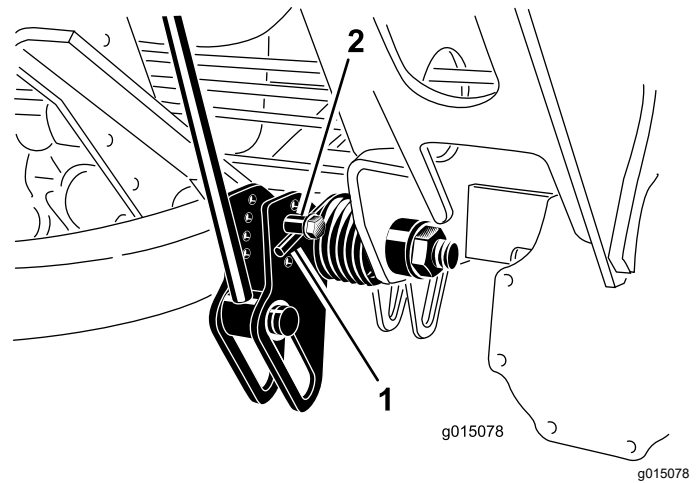

Figure 59
2. Insert a tube or similar object onto the long spring end to relieve the spring tension during the adjustment (Figure 59).
3. While relieving the spring tension, remove the bolt and locknut securing the spring actuator to the bracket (Figure 59).